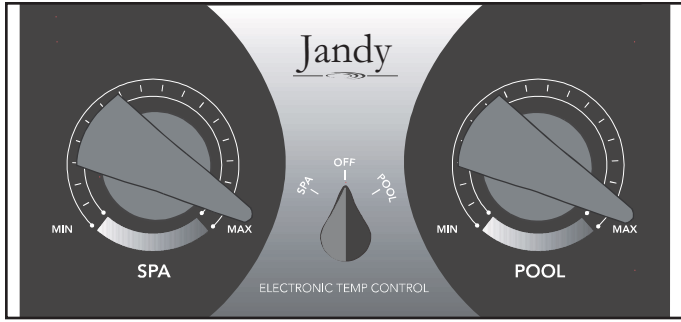

Figure 26. Temperature control panel.
The Hi-E2 heater has a dual temperature control which allows either of two (2) different temperature settings to be selected with the rotary switch on the control panel. The owner can set one control for normal use and the other for standby, or one might be set for a pool and the other for a spa. Setting the rotary switch to the middle position turns the heater off. See Figure 26.